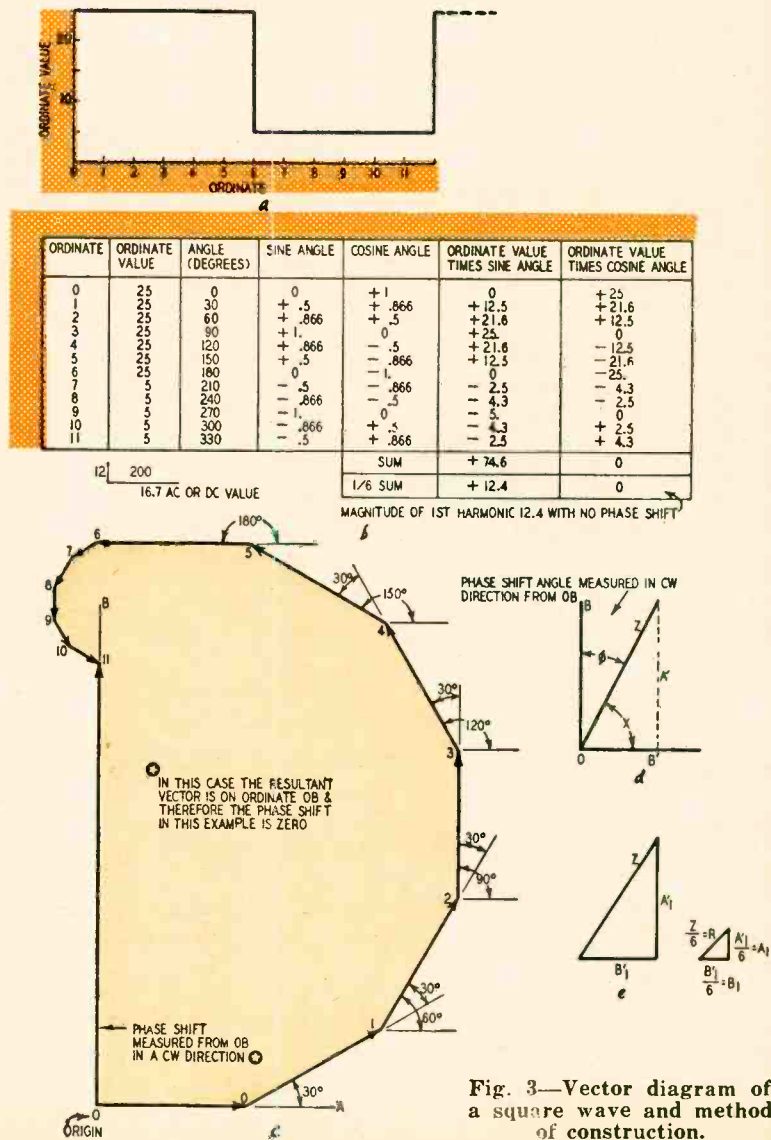
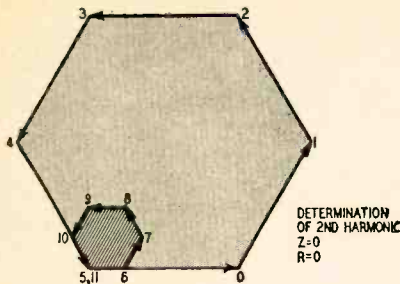
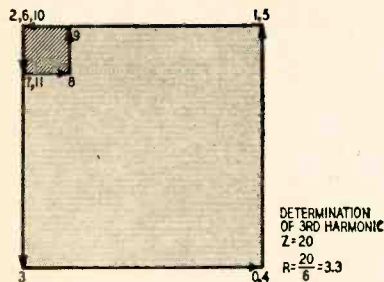

Fig. 3—Vector diagram of a square wave and method of construction.
Fig. 4—Vector diagram of a square wave's second harmonic.
Fig. 5—Vector diagram of a square wave's third harmonic.
Let us work with the square wave of Fig. 3-a. The 360° are divided into 12 intervals and the ordinate length determined. The table (Fig. 3-b) is then made. Next the respective ordinate values are placed end to end in a *vector polygon* (see Fig. 3-c) with each ordi-
The *resultant vector Z*, drawn from the point of origin to the end of the last of the ordinates, gives the total value of all the vectors and can be analyzed in terms of its component vectors. The sum of the ordinate (vertical) values of these is equal to the vertical value of the resultant. The sum of the abscissa (horizontal) values of the vectors is equal to the horizontal value of the resultant. Each vector value in the table (Fig. 3-b) times the sine of its respective angle gives the ordinate value (A_1) and each of them multiplied by the cosines of their respective values gives the abscissa value (B_1).
point on the line OB of Fig. 3-c, this displacement is found by drawing a line from the origin (O) to the terminating point and measuring the angle between the two lines clockwise from OB. This angle is the phase displacement in degrees from the origin (Fig. 3-d).
The second and third harmonics are found by drawing graphs similar to those of Figs. 3-b and 3-c. Since the second harmonic is twice the frequency of the first, it will go through 60° while the first harmonic goes through 30°. Thus the ordinates are drawn at a 60° angle to each other, as in Fig. 4. The third harmonic is *three* times the frequency and the quantities are 90° apart, as in Fig. 5. Measuring our resultants, we find that the first harmonic vector is 74.6 units long, making its value 12.4 (1/6 of 74.6). The second harmonic is zero, and the third harmonic is 1/6 of 20, or about 3.3, in phase with the first harmonic.
TABLE I—DETERMINING COMPONENTS OF WAVEFORM (Values Taken From Figs. 3, 4 and 5)
tically, without drawing any figures. It is derived from Figs. 3, 4, and 5. First the dc component is found by adding the ordinates and dividing by 12. In the case of our square wave, it comes to 16.7. This is the value a dc meter would read. To find the alternating component, each value is multiplied by the sine and cosine of its angle to find a resultant value and the phase shift. The resultant is divided by half the number of ordinates used to find the amplitude of the component. This is actually what we have been doing in the diagrams. For example, a line 10 units long at an angle of 30° to the horizontal will be found to have risen 5 units.
It can be seen from Fig. 3 that vector 0 is entirely in the horizontal direction and does not contribute any vertical component to the resultant vector Z. Vector 1 has a vertical component equal to the ordinate value of the wave (at 30°) times the sine of 30°. Vector 1 has a horizontal component equal to the ordinate value of the wave (at 30°) times cosine 30°. We can find the vertical and horizontal components in the resultant vector by simply adding the vertical and horizontal components of each of the respective component vectors in turn.
When adding horizontal components a vector moving toward the right on the graph has a positive value; to the left a negative value. With vertical components a vector moving up has a positive value; down a negative value. A chart to simplify this procedure is shown in Table I. The values used are from Figs. 3, 4 and 5.